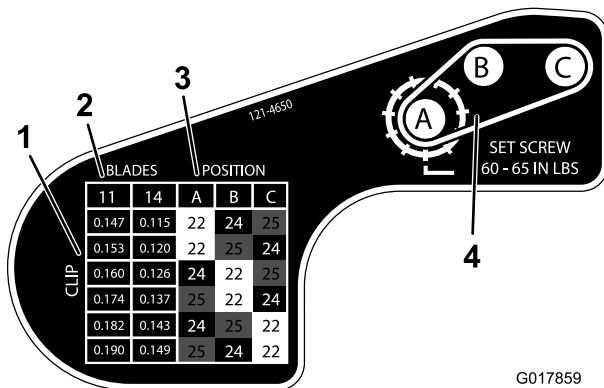

Figure 15
6. Using the chart shown on the decal in Figure 15, determine the clip setting you want and which pulleys you will need to move.
9. Install each pulley in the new configuration as indicated on the decal (Figure 15). Ensure that the setscrews on each pulley are positioned to align with the key and flat area on the shaft.